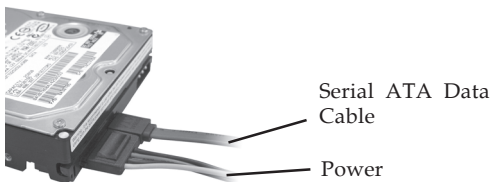

Figure 4: SATA hard disk drive connections
3. Connect one end of the *Serial ATA cable* to the hard disk drive. See **Figure 4**.